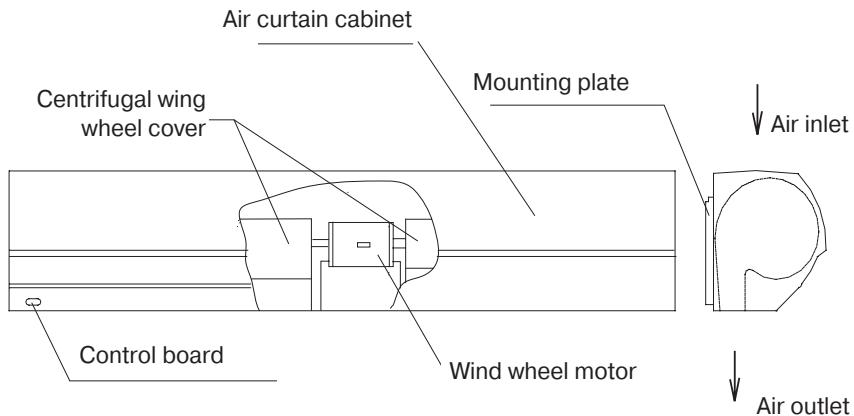

Figure 1. Air Curtain assembly.
4.1. Centrifugal wind wheels of single-directed induction type are installed in metal cabinet of Air Curtain (Fig.1).